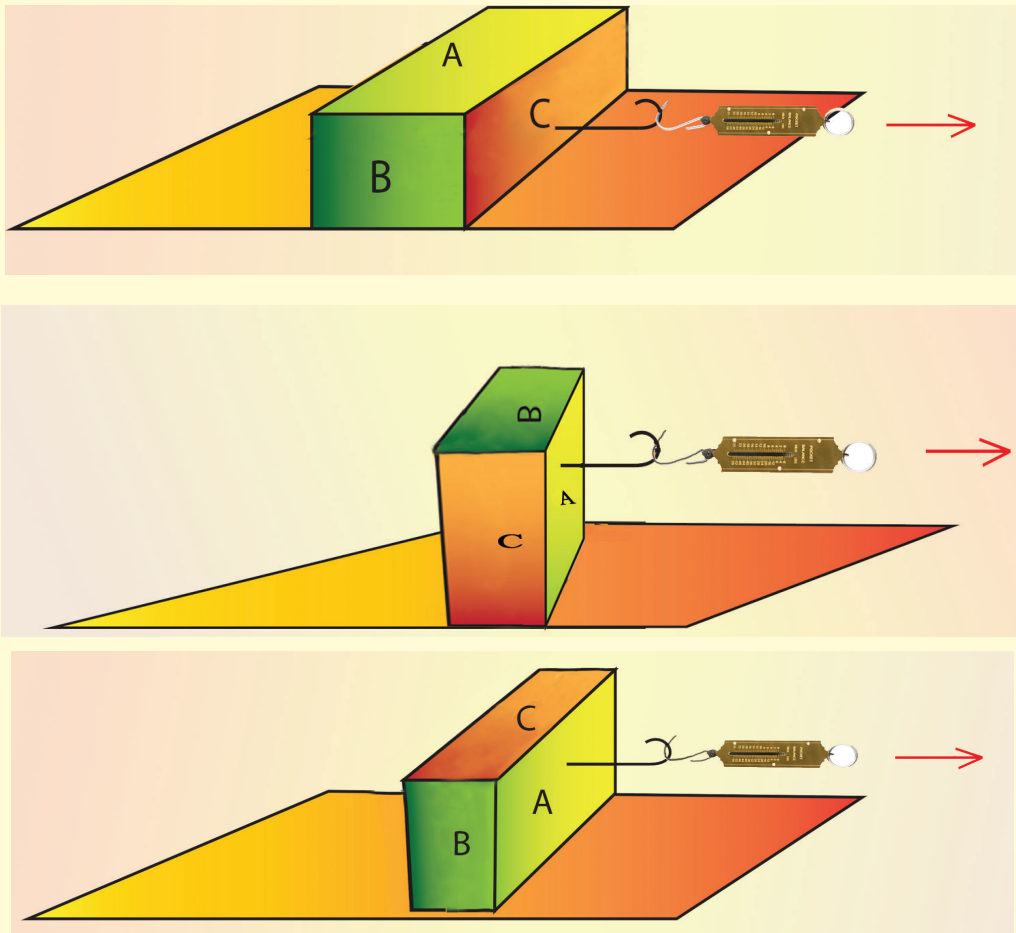

Figure 5.4 – Investigation of the influence of surface area on friction
- Repeat the above step, placing different surfaces of the block in contact with the table as shown in Figure 5.4, to find the limiting frictional force corresponding to each surface.